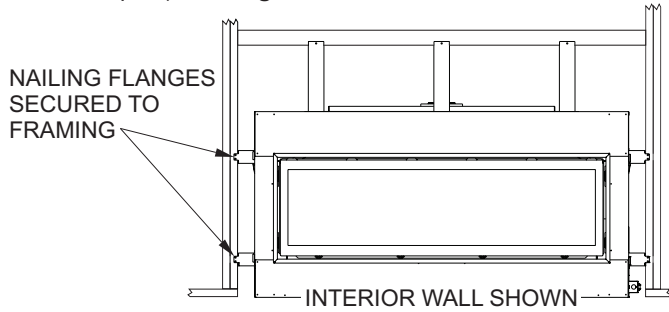

Figure 23
5. Secure fireplace to framing with nailing flanges. Set the depth to suit facing material (flush, 1/2 inch, or 3/4 inch set back depths). See Figures 23 and 24.